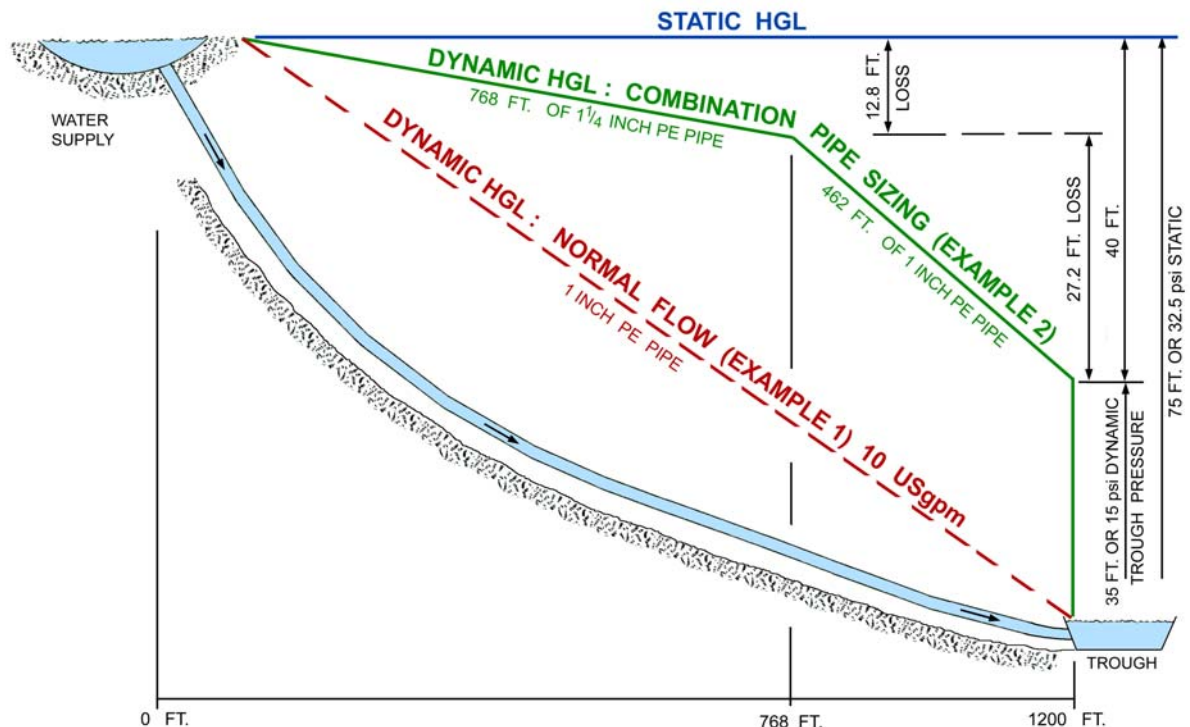

Figure 1 Profile of a Gravity-Pressured Water System Supplying a Trough : Hydraulic Grade Line under Static and Dynamic Conditions in Examples 1 and 2
Hydraulic Grade Line. To fully illustrate the conditions along a pipe, static and dynamic equilibrium conditions can be plotted on a drawing of the profile of the system. When the points of static or dynamic equilibrium are connected they form a line that is termed the hydraulic grade line (HGL). This line represents the energy level at each point along the pipe (refer to Figure 1, below). As different flows have different energy levels, they also have different **HGL's**.
A system is planned that has a 75 feet elevation head and will use 1 inch polyethylene (PE) pipe that is 1200 feet long free flowing into a trough as shown in Figure 1. What will be the natural flow?
Using the same conditions as Example 1, (75 feet elevation head, using 1200 feet of 1 inch polyethylene pipe supplying a trough), but instead of free flowing, a trough pressure of 15 psi is required, as shown in Figure 1. What pipe size(s) are needed for a 10 USgpm flow?